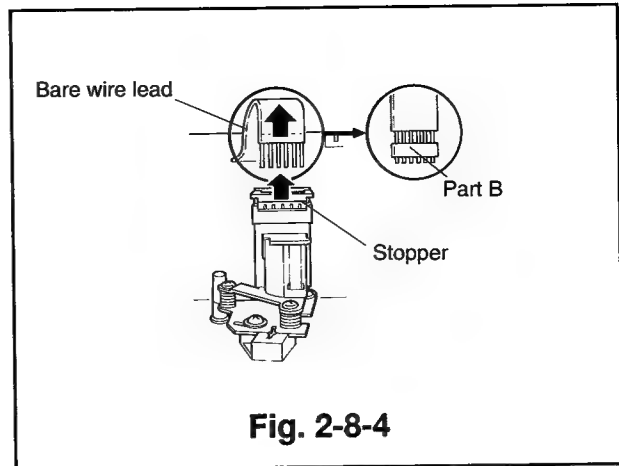

Fig. 2-8-4
- ③ Lift the stopper of the A/C head assembly in Fig. 2-8-4 slightly upward and disconnect the lead connector (bare wire), connecting the PCB-HEAD-AMP and the PCB-A/C-HEAD.
- ⑤ Shift part B of the bare wire lead extended from the head amp slightly downward, lower the stopper, and connect it to the connector on the PCB-A/C-HEAD. (Refer to Fig. 2-8-4)